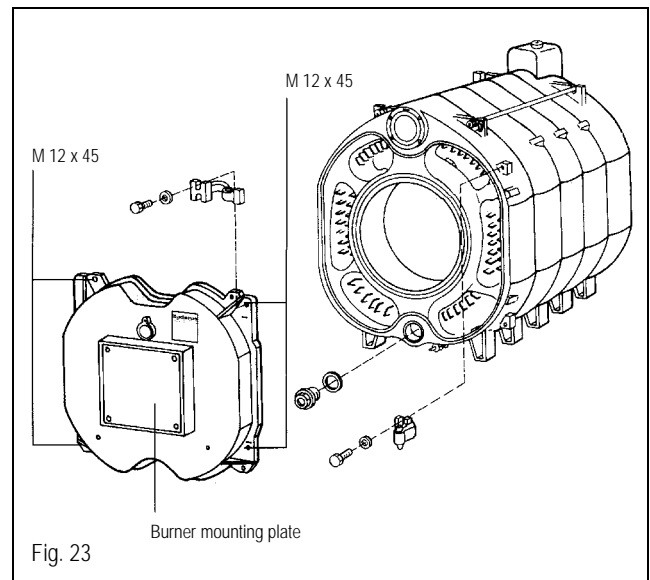

Fig. 23
- Hang and close burner door and **tighten evenly** with the (4) M12x45 burner door bolts (Fig. 23).